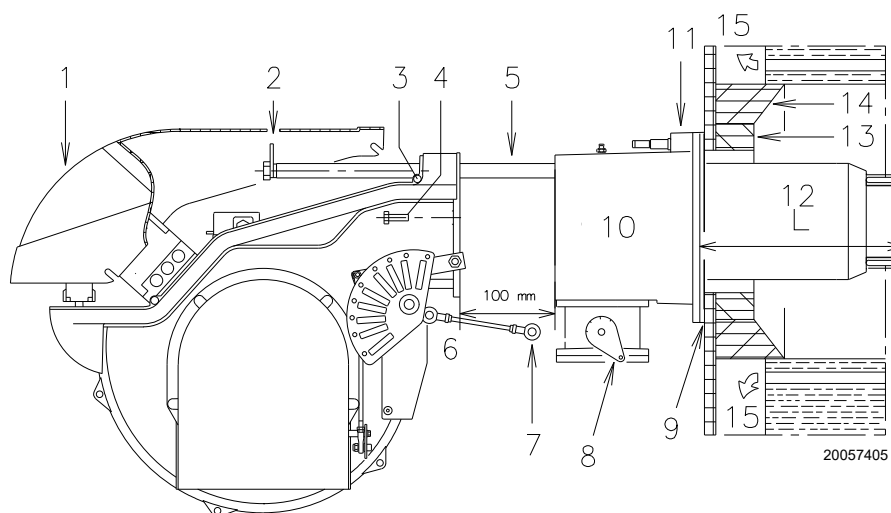

Fig. 14
For boilers with front flue passes 13)(Fig. 14) or flame inversion chambers, a protection in heat-resistant material 11) must be inserted between the boiler refractory 12) and the blast tube 10).
For boilers with a water-cooled front piece, a refractory lining 11)-12)(Fig. 14) is not necessary, unless expressly requested by the boiler manufacturer.
Divide the combustion head from the rest of the burner, as shown in Fig. 14; you have to:
- reassemble the burner on the slide bars 3) at about 100 mm from the pipe coupling 4) - burner in the position shown in Fig. 14;